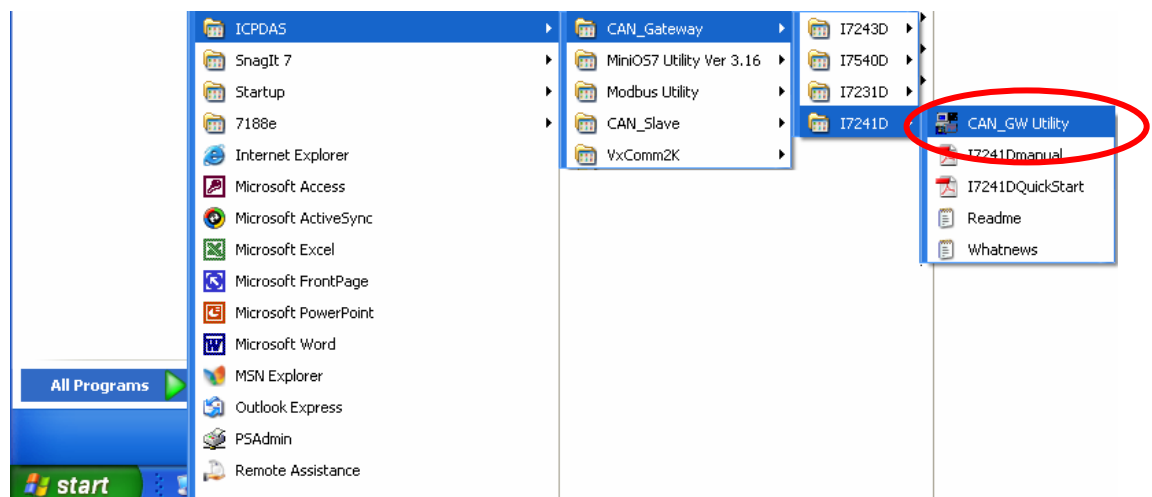

Fig 5-6. You can find “CAN\_GW Utility” at Start in the task bar
Step 7: After finishing installing the CAN Gateway Utility, users can find CAN\_GW Utility as following figure 5-6.